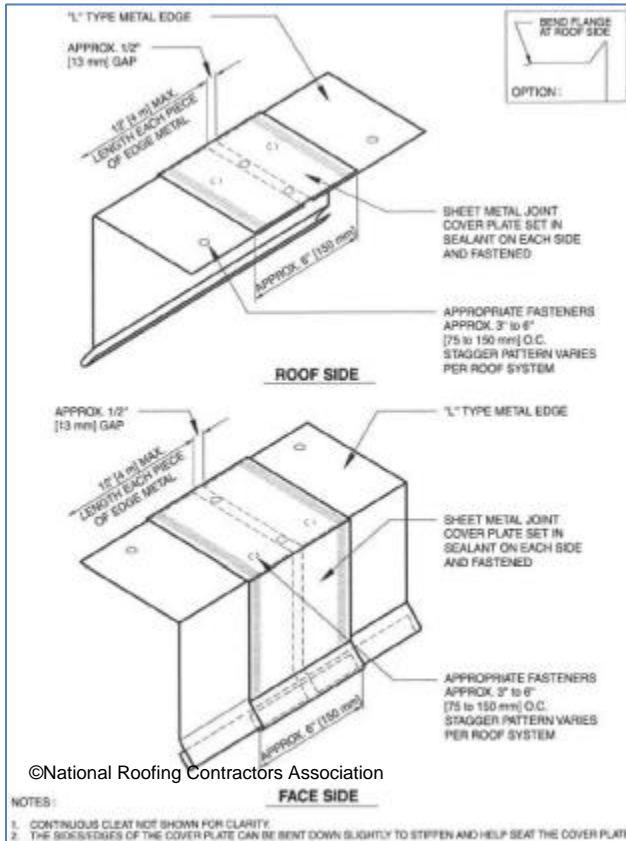

Figure 13-22
- Cover plate joints (Figure 13-22)